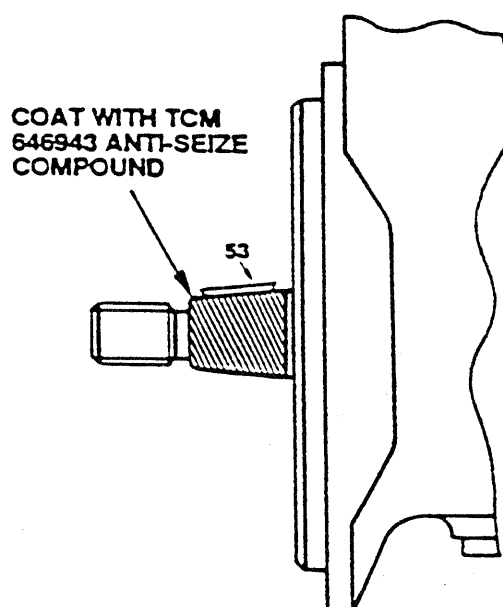

Figure 916. Applying Compound to Magnet Shaft
- I. Install woodruff key (53) in tapered portion of shaft. Apply a light coating of TCM 646943 anti-seize to the tapered section of the rotating magnet shaft. (See Figure 916). This inhibits seizure of the cam assembly to the shaft and avoids damage during disassembly. Do not apply lubricant to shaft or nut threads. Install coupling assembly (8) and washer (4) with flat side of washer toward the coupling. If applicable, install drive member woodruff key (53), and bushing (5). Install lockwasher (3) if used, and thread nut (2) onto shaft.